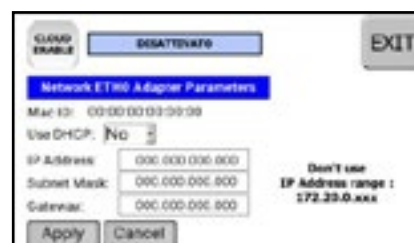

FIG. 2
- DHCP: DHCP server automatically assigns the IP address. For this choice, select YES in the USE DHCP box (Fig. 2). The IP ADDRESS box will always display the ID address that has been automatically assigned
- Static IP: For this choice, select NO in the USE DHCP box (Fig. 2). Manually type IP ADDRESS – SUBNET MASK and GATEWAY address codes of the company network (Fig. 2). Press Apply.